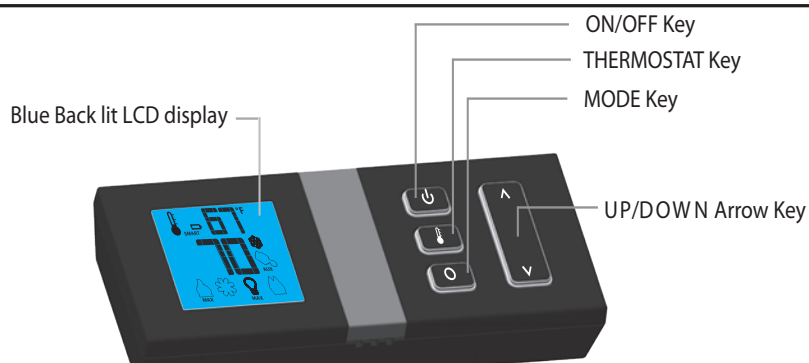
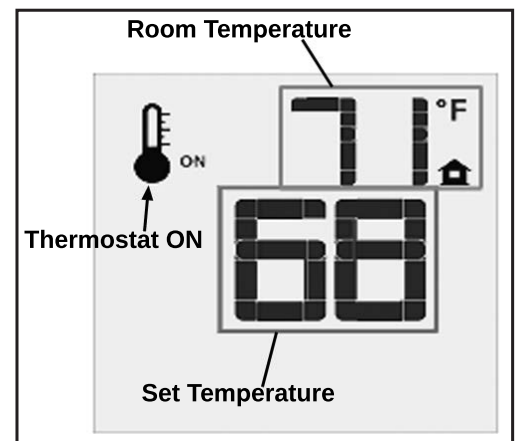
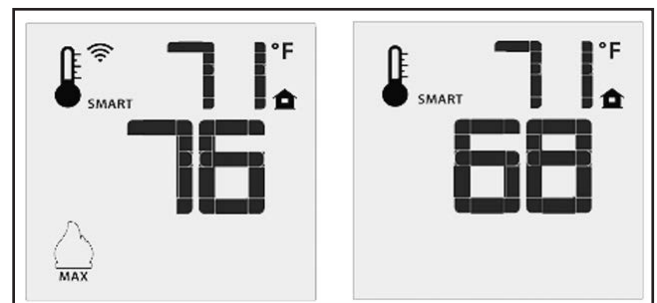
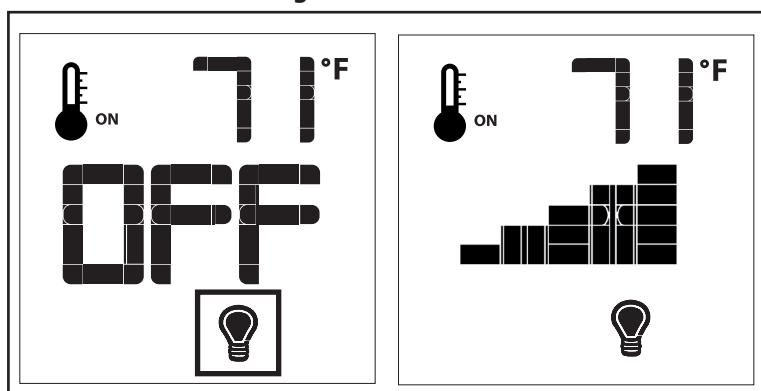

Figure 4: Proflame 2 Transmitter
Figure 9: Remote Control Displays Set Temperature.
Figure 10: Remote Control's Smart Flame Function.
Figure 13: Bottom Light Control
The Proflame 2 Transmitter is a remote control with a blue backlit LCD display. It uses a streamline design with a simple button layout and informative LCD readout (Figure 4). The Transmitter is powered by three (3) AAA type batteries. A Mode Key is provided to Index between the features and a Thermostat Key is used to turn on/off or index through Thermostat functions (Figure 4 & 5).
Press the ON/OFF Key on the Transmitter. The Transmitter LCD display will only show the room temperature and Icon (see Figure 9). A single “beep” from the IFC confirms reception of the command and both the pilot light (if the unit is not set to continuous pilot) and main burner will turn off.
The Remote Control can operate as a room thermostat. The thermostat can be set to a desired temperature to control the comfort level in a room. To activate this function, press the Thermostat Key (see Figure 4). The LCD display on the Transmitter will change to show that the room thermostat is “ON” and the set temperature is now displayed (see Figure 9). To adjust the set temperature, press the Up or Down Arrow Keys until the desired set temperature is displayed on the LCD screen of the Transmitter.
The Smart Thermostat function adjusts the flame height in accordance to the difference between the set point temperature and the actual room temperatures. As the room temperature gets closer to the set point the Smart Function will modulate the flame down. To activate this function, press the Thermostat Key (Figure 4) until the word “SMART” appears to the right of the temperature bulb graphic (Figure 10). To adjust the set temperature, press the Up or Down Arrow Keys until the desired set temperature is displayed on the LCD screen of the Transmitter.
The Ri30 comes with a convection fan that can be controlled with the Transmitter. The fan speed can be adjusted through six (6) speeds. To control the fan press the MODE key (Figure 4) to index to the fan control icon (Figure 12). Use the UP/DOWN arrow keys to turn on, off, or adjust the fan speed (Figure 12). A single beep from the IFC will confirm the command has been received.
The ember lights at the front of the fireplace can be controlled with the Transmitter. The lights can be adjusted through six (6) levels. To adjust the brightness of the lights press the MODE key (Figure 4) to index to the light control icon (Figure 13). Use the UP/DOWN arrow keys to turn on, off, or adjust the brightness (Figure 13). A single beep from the IFC will confirm the command has been received.